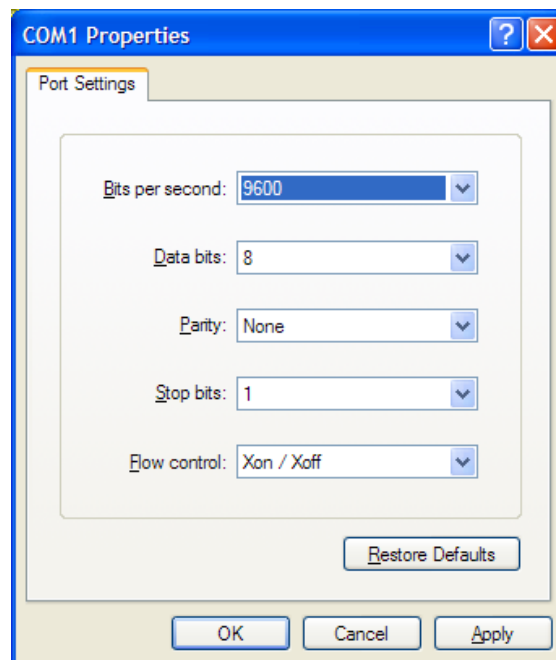

Figure C-3. COM Properties Dialog Box
- a. Make the following selections using Figure C-3 as a guide: